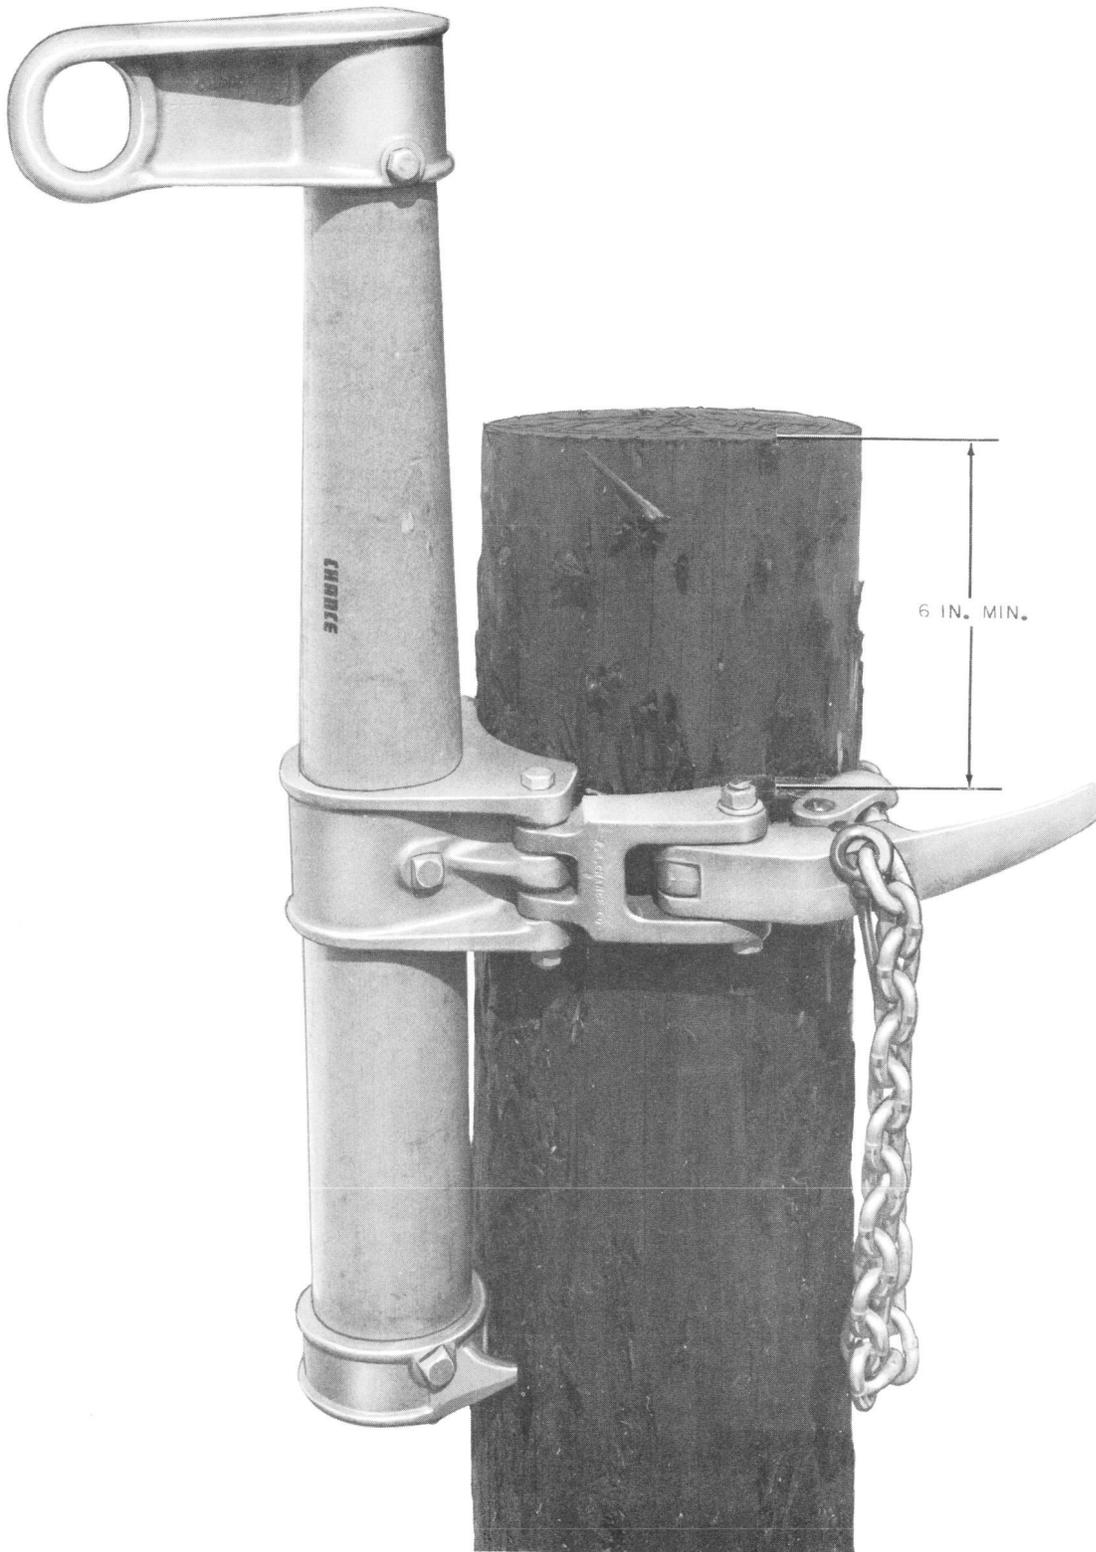

Fig. 4—Pole Top Gin Placed on Pole
4.02 Lift the gin with the handline and position the gin on the pole. Do not place the binder chain nearer than 6 inches from the top of the pole (Fig. 4). Secure the gin to the pole as described in 4.01 (a) through (d).